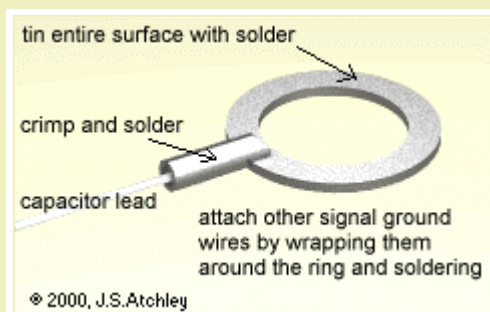

Figure 2c
16. Crimp **and** solder the other lead of the .33uf, 400V capacitor to a large or medium ring connector (see figure 2c and 2d). **This terminal is where we will attach all signal ground wires for "star" grounding.**